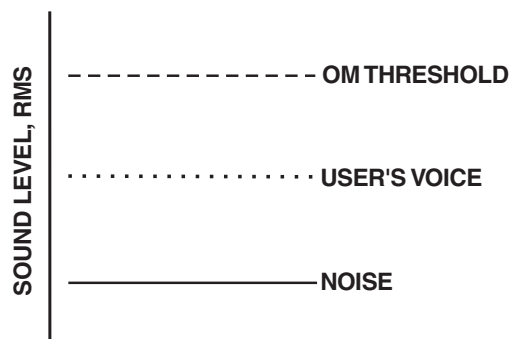
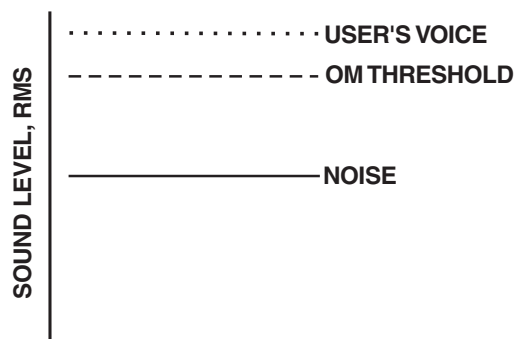

Figure 22
Figure 23
The microphone gain controls on the base station and beltack are set to mid-levels by the factory. In most cases this setting will work fine and only on loud speech will the overmodulation (OM) indicator light. However, in environments where the background noise is loud or the user has a strong/quiet voice, the gain control will need to be adjusted. In Figure 22 the gain is set correctly. The user's root-mean-square (RMS) sound level is well below the OM threshold and only on peaks does his or her voice flash the OM indicator light.
Figure 23 displays the same gain setting as in Figure 22 but brought into a high noise environment. The user's voice now lights the OM indicator all the time he or she speaks due to the higher noise plus the user speaking louder. The result on the system is distortion on louder speech. The microphone gain must be reduced. The same applies to a user with a powerful voice. If someone sets the system mic gain to their voice and user has a much stronger voice, then the gain will need to be reduced, even if the background noise is the same.